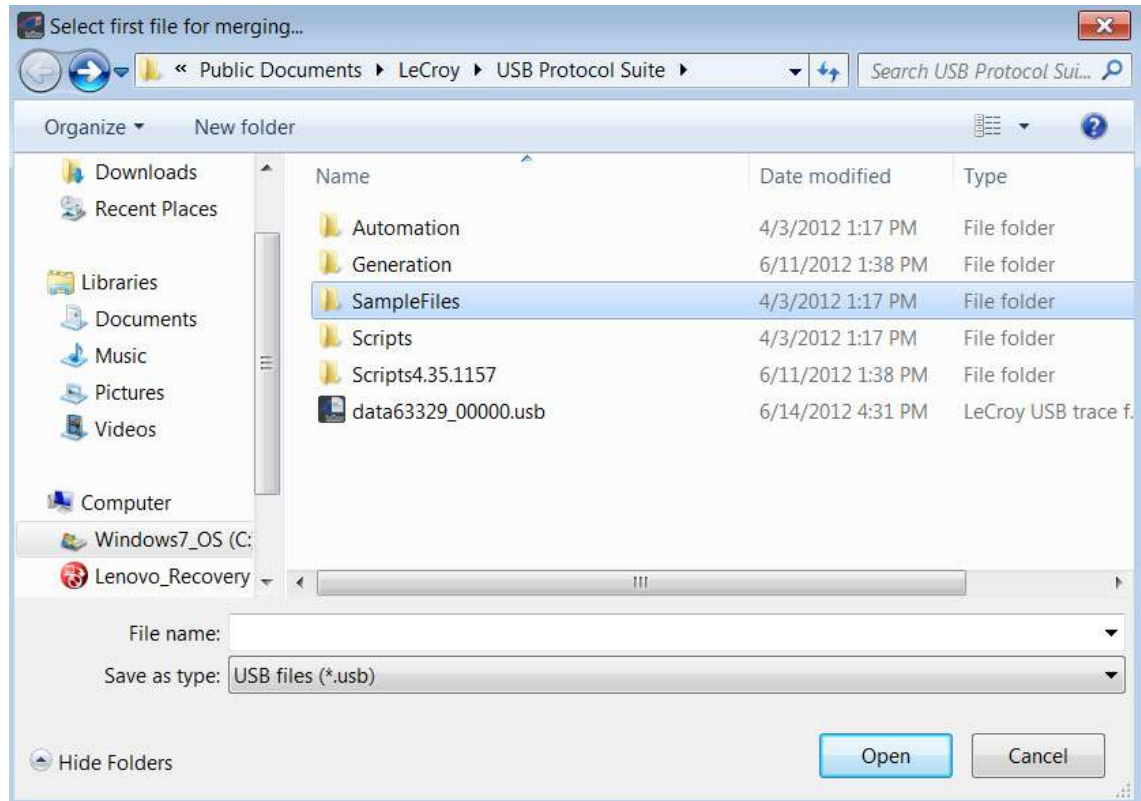

Figure 5.102: Select First File For merging Dialog.
1. Select **File > Merge Trace Files** to display a dialog box asking for the first source file (see Figure 5.102 on page 373).